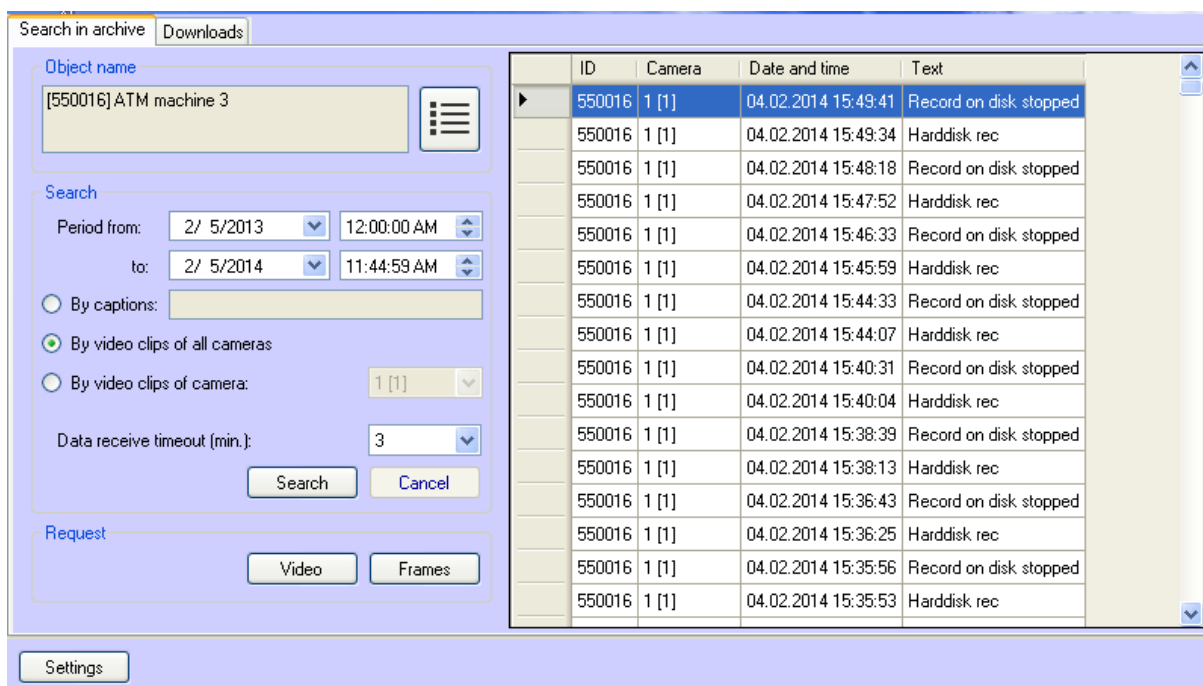

Fig. 5.3—2 Search results
3. Select an object in the **Object name** list and click the **Search** button. If search is successful, the archive results are shown as a list of entries (Fig. 5.3—2). Only 500 results can be displayed.